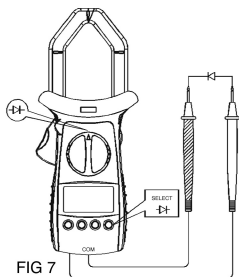

FIG 7
E. Testing Diodes (See figure 7)